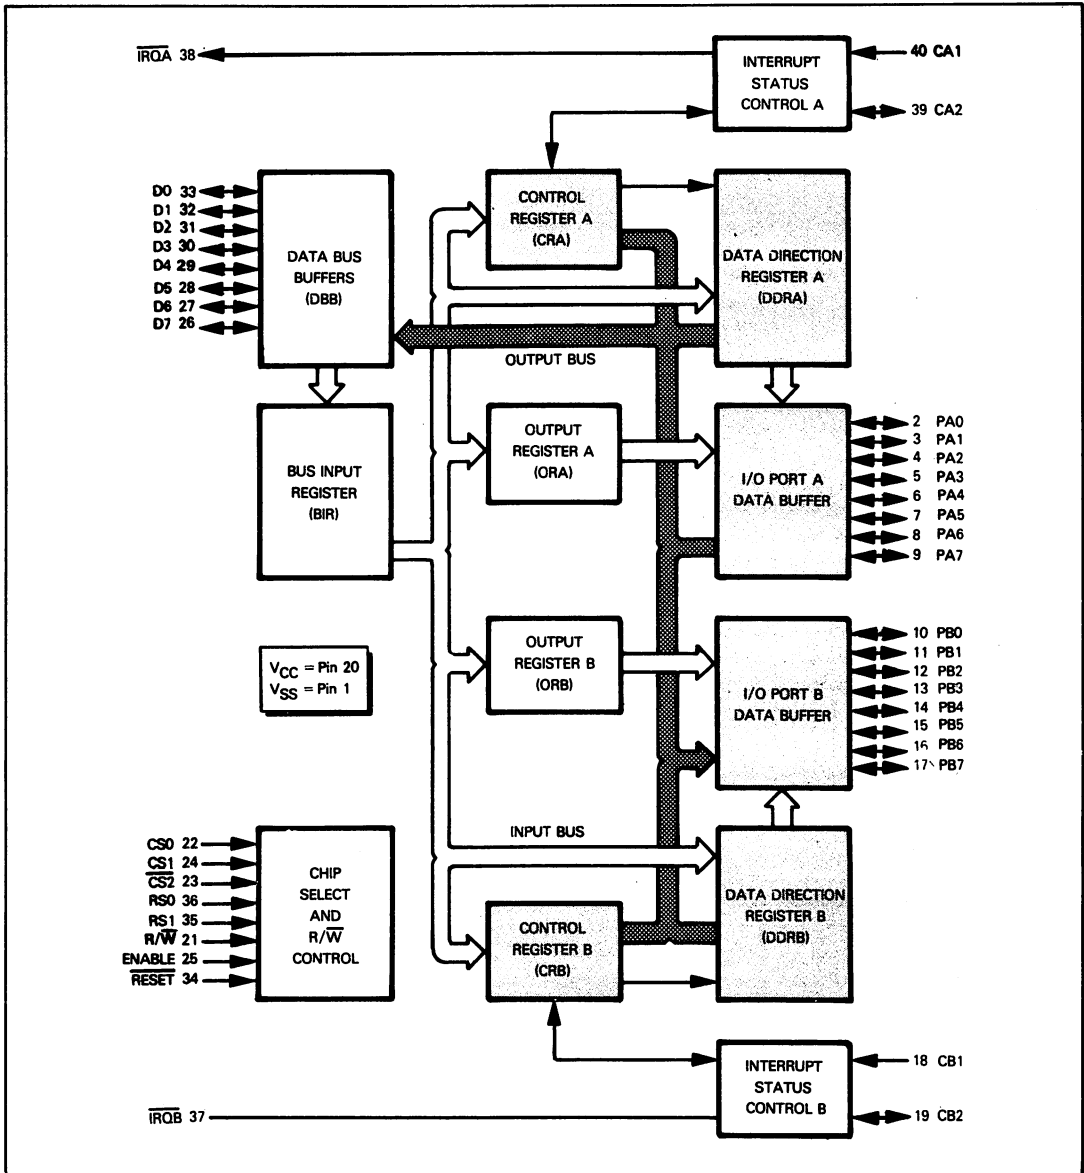

Figure 9-21. Functional Block Diagram for the MC6820 PIA
As compared to the 8255 PPI, the MC6820 PIA has less formalized operating modes. The MC6820-to-external logic interface consists of two I/O ports, each of which has two dedicated control lines. **You have the option of assigning individual I/O port lines to input or output; as a completely separate operation you can use the two control lines to perform a limited amount of handshaking and interrupt processing — or you can ignore the control lines, in which case the I/O port is supporting simple input and/or output. Bidirectional I/O, equivalent to 8255 Mode 2, is not available.** Figure 9-21 generally represents MC6820 functional organization and Table 9-4 summarizes the available operating modes.
**There are six addressable locations within an MC6820 PIA; they are shaded in Figure 9-21.**